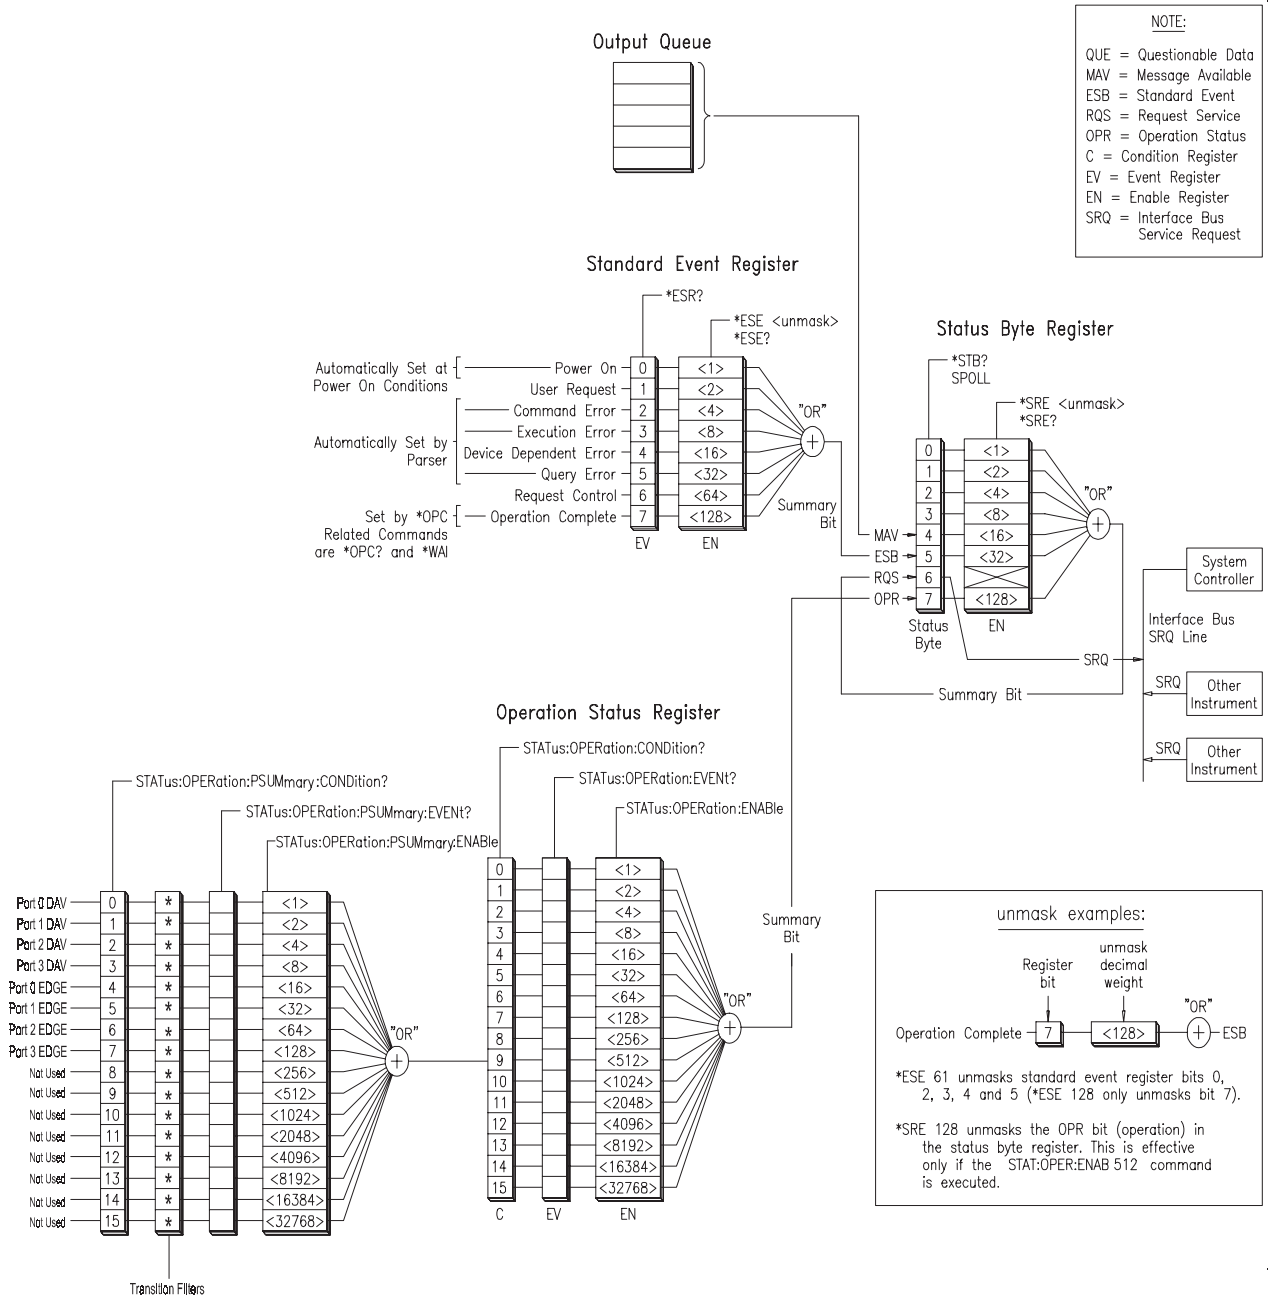

Figure 3-1. HP E1459A Status System Register Diagram
The STATUS system contains five registers, two of which are under IEEE 488.2 control: the Event Status Register (*ESE?) and the Status Byte Register (*STB?). The Operational Status bit (OPR), Service Request bit (RQS), Event Summary bit (ESB), Message Available bit (MAV) and Questionable Data bit (QUE) in the Status Byte Register (bits 7, 6, 5, 4 and 3 respectively) can be queried with the *STB? command. Use the *ESE? command to query the *unmask* value for the Event Status Register (the bits you want logically "OR'd" into the Summary bit). The registers are queried using decimal weighted bit values. The decimal equivalents for bits 0 through 15 are included in Figure 3-1.
- <mask> determines which OPERATION Status conditions are summed. See Figure 3-1. The events detected in the Port Summary Status Register are reported in bit 9 of the Operation Status Register which in turn is reported in bit 7 of the Status Byte Register.
- The only defined bit is bit 9 which is the summary of the Data Available and Edge Status for Ports 0, 1, 2, and 3. See Figure 3-1.
- Bits 0 through 3 reflect Data Available on Ports 0 through 3 respectively; bits 4 through 7 reflect edge events on Ports 0 through 3 respectively. See Figure 3-1.
- This mask determines which Operation Status Port Summary Events are summed and reported in bit 9 of the Operation Status Register. Bits 0 through 3 reflect Data Available on Ports 0 through 3 respectively; bits 4 through 7 reflect edge events on Ports 0 through 3 respectively. See Figure 3-1.